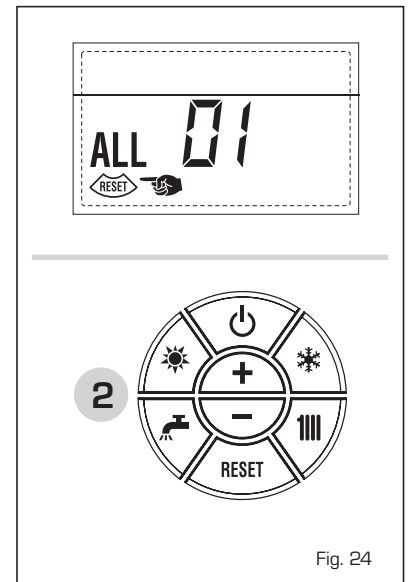

Fig. 24
- **ANOMALÍA DESCARGA HUMOS "ALL 01" (fig. 24)**